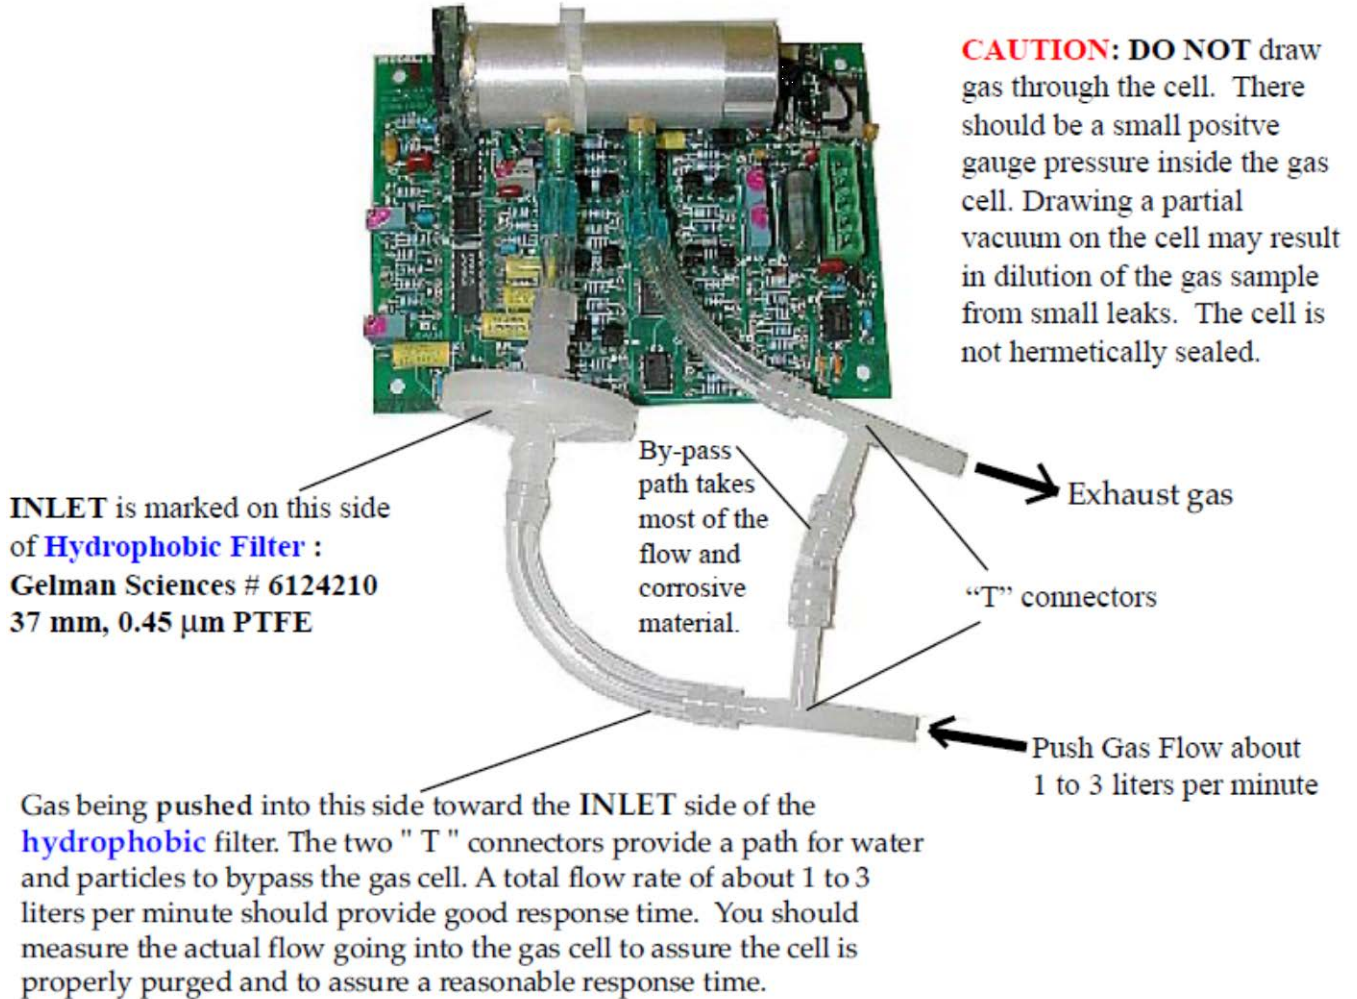

FIGURE 5
3. See Figure 5. This setup improves Zero Stability and sensor life.